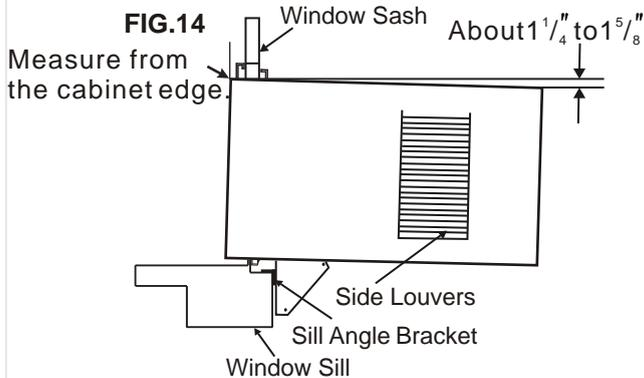

FIG.14
**NOTE:** Check that air conditioner is tilted back about  $1\frac{1}{4}$ " to  $1\frac{5}{8}$ " (tilted about  $3^\circ$  to  $4^\circ$  downward to the outside). After proper installation, condensate should not drain from the overflow drain hole during normal use, correct the slope otherwise (Fig. 14).